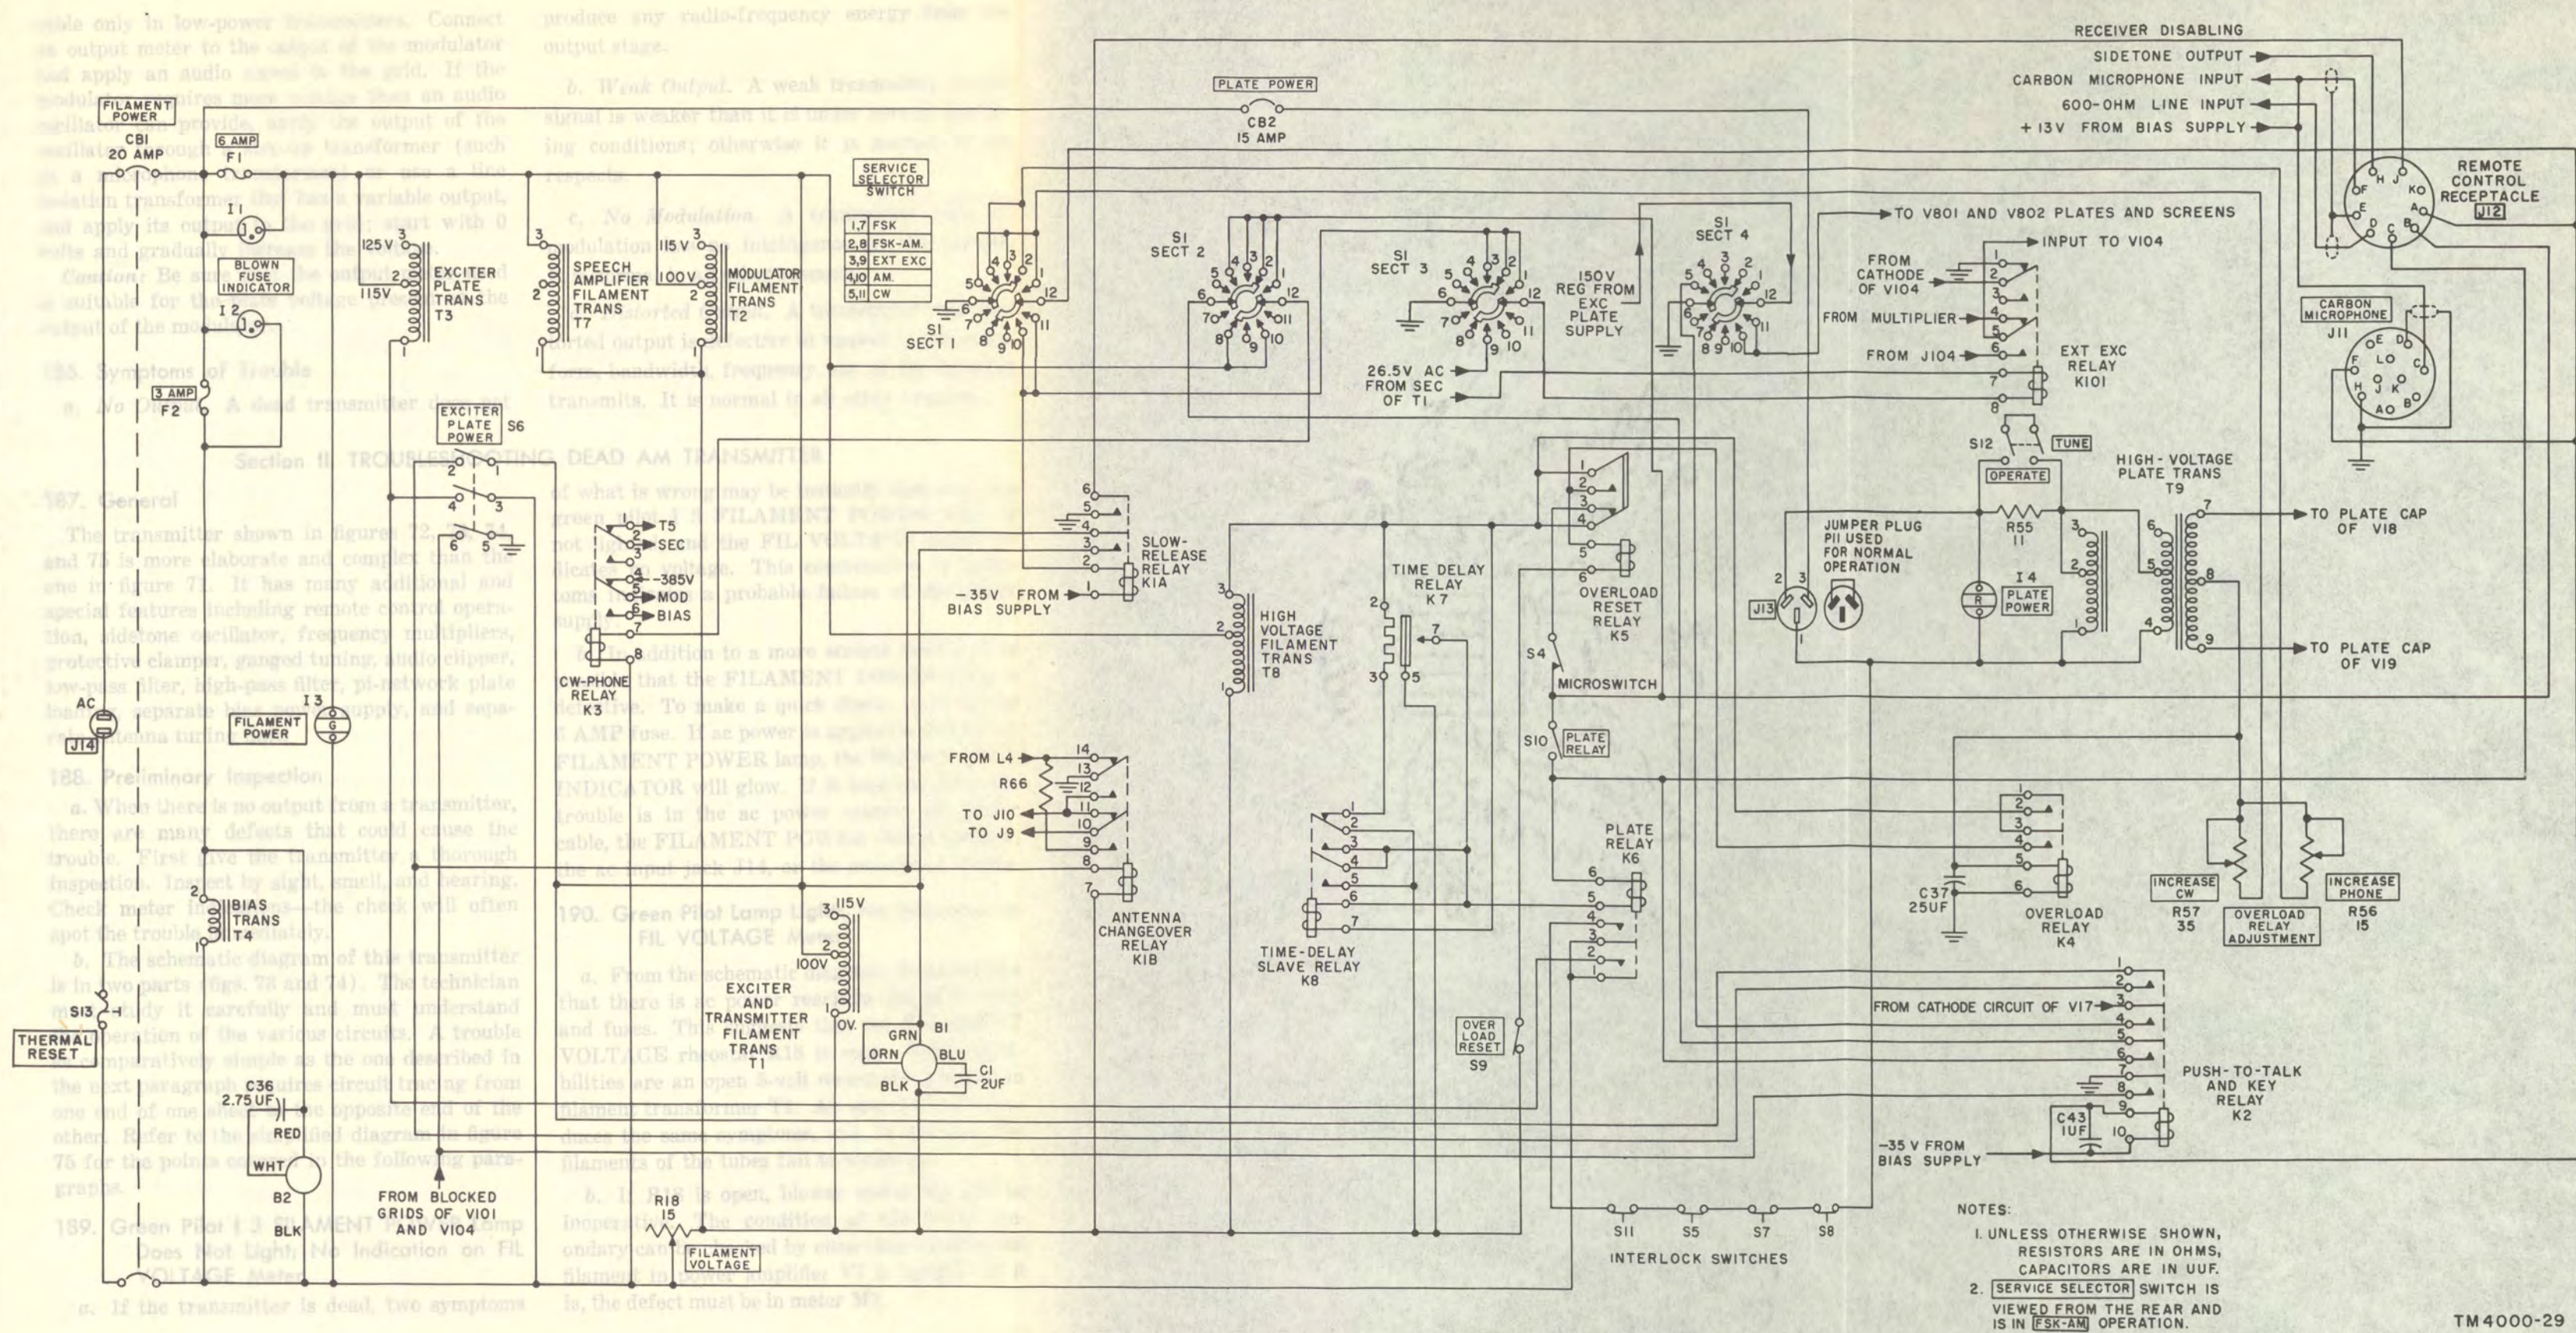

Figure 75. Am transmitter, primary power distribution and control circuits, schematic diagram.
b. The schematic diagram of this transmitter is in two parts (figs. 73 and 74). The technician must study it carefully and must understand the operation of the various circuits. A trouble as comparatively simple as the one described in the next paragraph requires circuit tracing from one end of one sheet to the opposite end of the other. Refer to the simplified diagram in figure 75 for the points covered in the following paragraphs.
b. If the K6 winding is intact, time-delay relay K7 should be suspected, especially if more than 30 seconds have passed since PLATE POWER circuit breaker CB2 has been closed. On the simplified diagram (fig. 75), the power circuit can be traced through winding 6-7 of time-delay slave relay K8, to contacts 3 and 4 of overload reset relay K5, to microswitch S4, PLATE RELAY switch S10, through winding 5-6 of plate relay K6, and back to terminal 6 of the time-delay slave relay. Completion of the plate power circuit depends on relay K8. Contacts 1 and 2 must be closed to heat K7; then contacts 2 and 3 have to close.